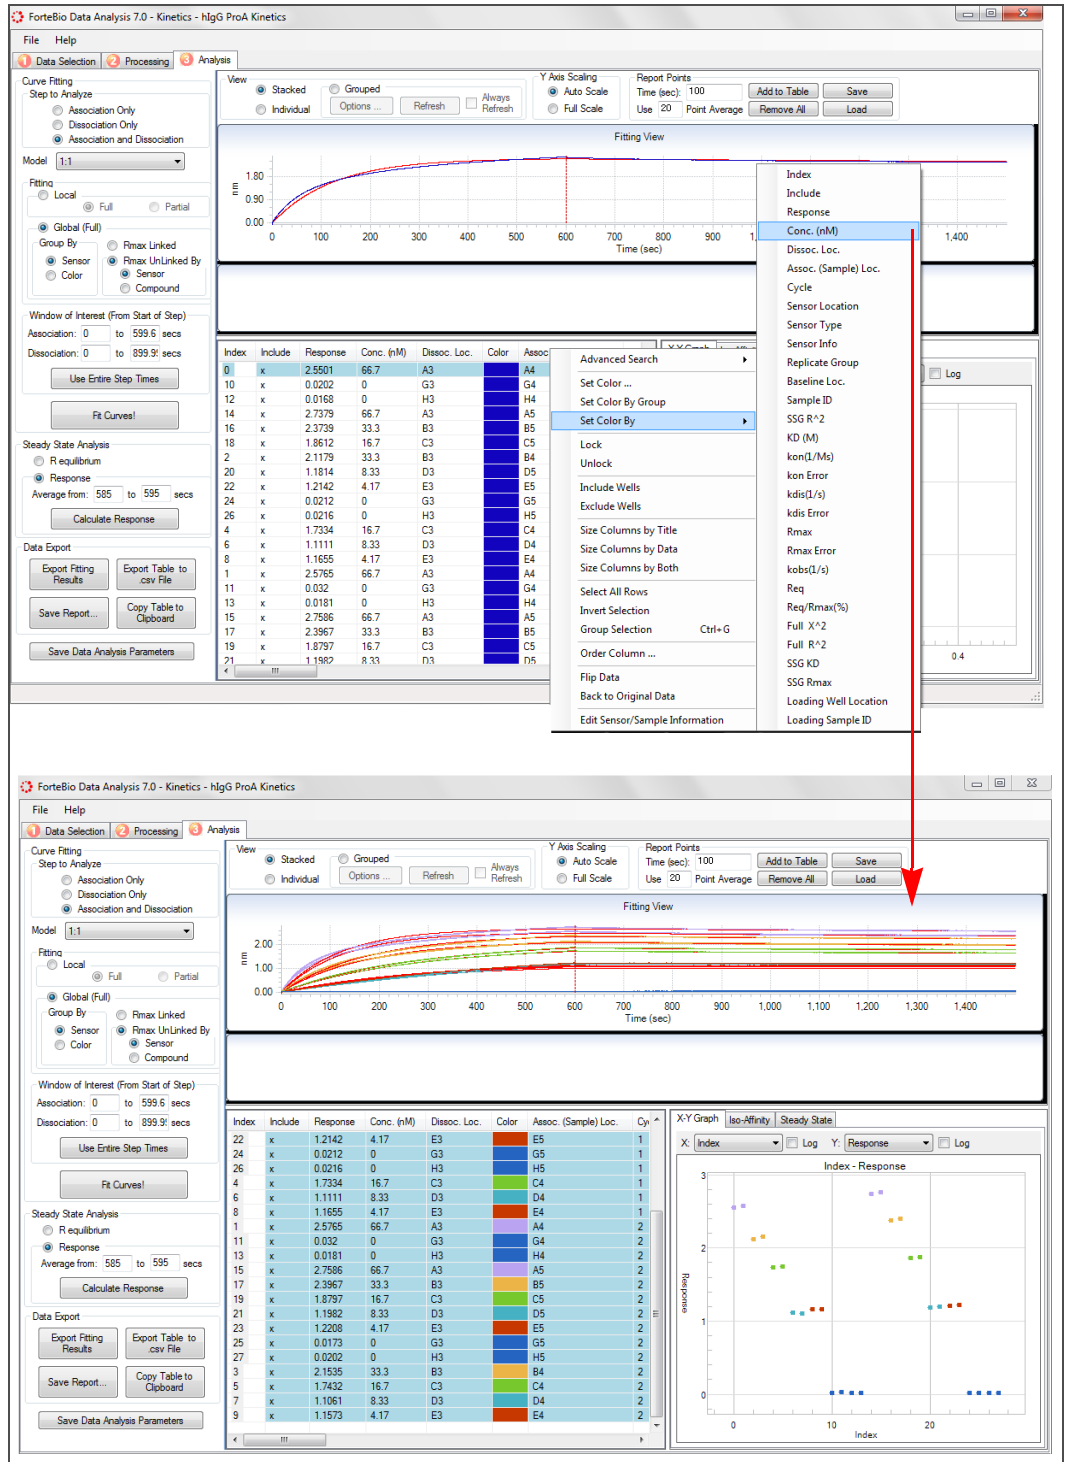

Figure 5-54: Setting Data Color by Category
- **Set Color By**—Enables you to color-code results according to a user-selected category from the analysis results table (see Figure 5-54).
2. Make a selection from the shortcut menu (Figure 5-54).
In Figure 5-54's example, *category* = sample concentration.